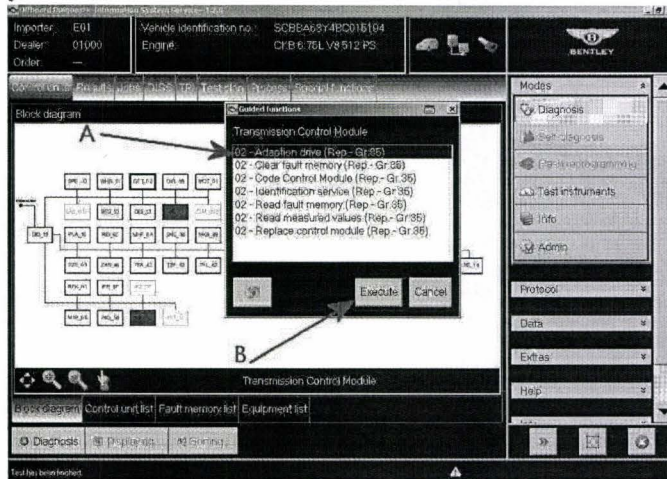

Figure 15
- Referring to Figure 15 Select – (Point A) 02 Adaption (Rep.Gr 35)